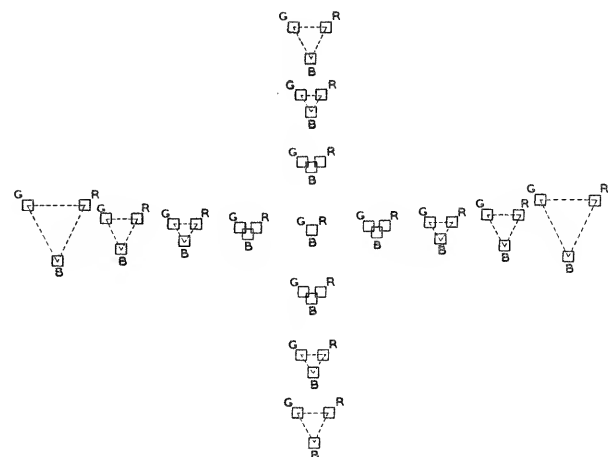

Figure 9—Center Static Convergence Pattern
Recheck the dot pattern for white dots in the center of the screen. If necessary, readjust the four magnet adjustments to again produce this condition. At this point the dot pattern should appear as shown in figure 9. The center dots should be converged, with mis-convergence at the sides and at the top and bottom of the screen. The dot triangles may not necessarily be equilateral triangles as shown in the illustration but should produce approximately the pattern shown.
**HORIZONTAL CONVERGENCE.** — The procedure for horizontal convergence is approximately the same as that used for vertical convergence. The horizontal row of dots nearest the center, however, is used for reference. Figure 9 shows the horizontal displacement at this point.